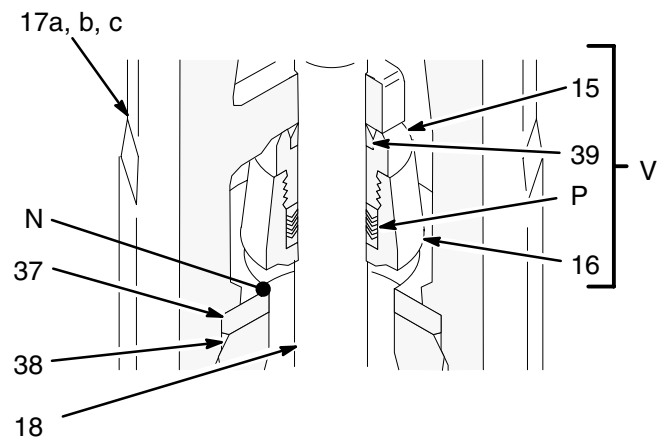

Fig. 7
5. Unscrew the intake valve housing (17) from the cylinder (10). Pull the housing off the pump. The intake check valve assembly (V, see Fig. 7) should slide down the priming piston rod (18) as you remove the housing; if it does not slide easily, firmly tap on the top of the housing (17) with a rubber mallet to loosen.
6. Pull the intake seat (37) and seal (38) out the bottom of the intake valve housing (17). Take care not to drop the check valve assembly (V) as it comes free, and set it aside for later. See Fig. 7.
13. To disassemble the intake check valve assembly (V), place the intake valve body (16) in a vise and unscrew the packing nut (15). Remove the seal (39) from the nut, and the glands and packings (P) from the valve body. Inspect the mating surfaces (N) of the intake valve body (16) and seat (37) for damage or wear. See Figs. 7 and 13.